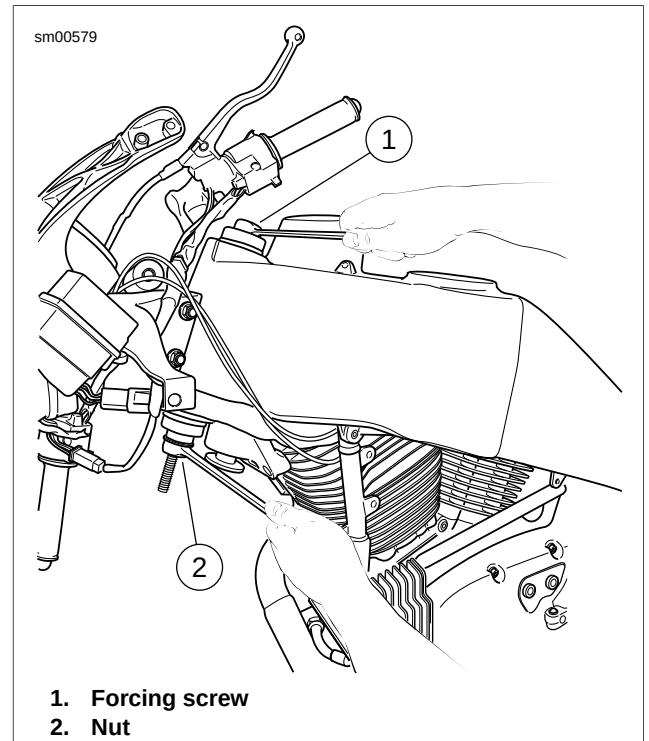

Figure 2-106. Install Bearings
4. Install the bearing (4), washer (5) and nut (6) from the steering head bearing race installer onto the forcing screw (1).
5. Tighten the nut (6) by hand, until the bearing is started into the bore in the steering head.
6. See Figure 2-106. Hold the forcing screw while tightening the nut to draw the bearing into the steering head. Continue tightening until the bearing is fully seated.